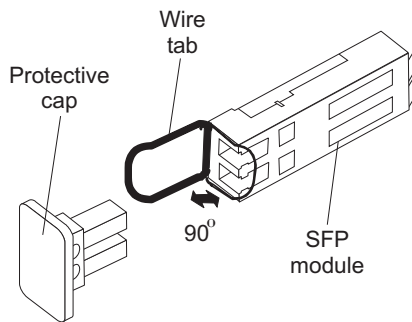

Figure 25. Unlocking the SFP module latch - plastic variety
- For SFP modules that contain plastic tabs, unlock the SFP module latch by pulling the plastic tab outward 10°, as shown in Figure 25.